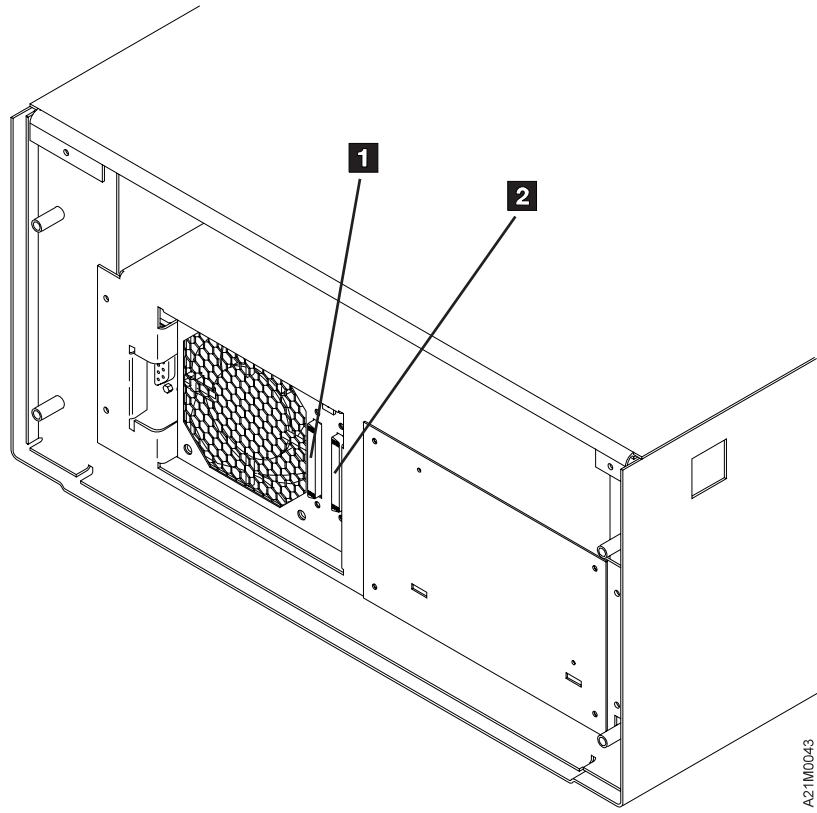

Figure 23. Rear View of Model B01 or B11
2. If the Magstar MP is the first or only SCSI device connected in line to the initiator, connect the SCSI cable coming from the initiator to the leftmost SCSI connector on the back of the library (see **1** in Figure 23).
3. If the Magstar MP is not the first device on the SCSI bus, connect the SCSI interface cable coming from the next closest device to the leftmost SCSI connector on the back of the library (see **1** in Figure 23).
4. If this is the last device on this SCSI bus, locate the SCSI interface terminator (P/N 61G8324) and attach it to the rightmost SCSI connector on the back of the library (see **2** in Figure 23).
5. If the library is not the last device on this SCSI bus, locate the SCSI interface cable to the next device and connect it to the unused, rightmost SCSI interface connector on the back of the library (see **2** in Figure 23).